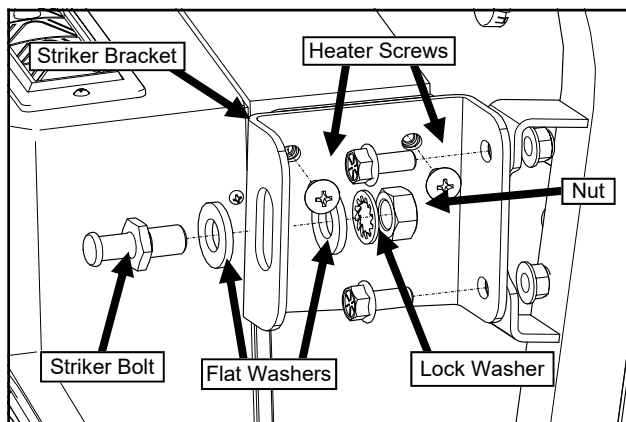

Fig. 18.4 (Vinyl hinged doors only: Striker Bracket on right side)
18.4 Vinyl hinged doors only: Per Figure 18.4, place the bent Striker Bracket against the right side A-pillar striker mount and heater bracket. Secure the striker bracket to the A-pillar mount with 5/16 x 3/4" bolts and nuts. Install the striker hardware, note the use of a second washer in place of a finger guard. Secure the bracket to the heater bracket and into the heater with the upper heater bolts from step 17.2.